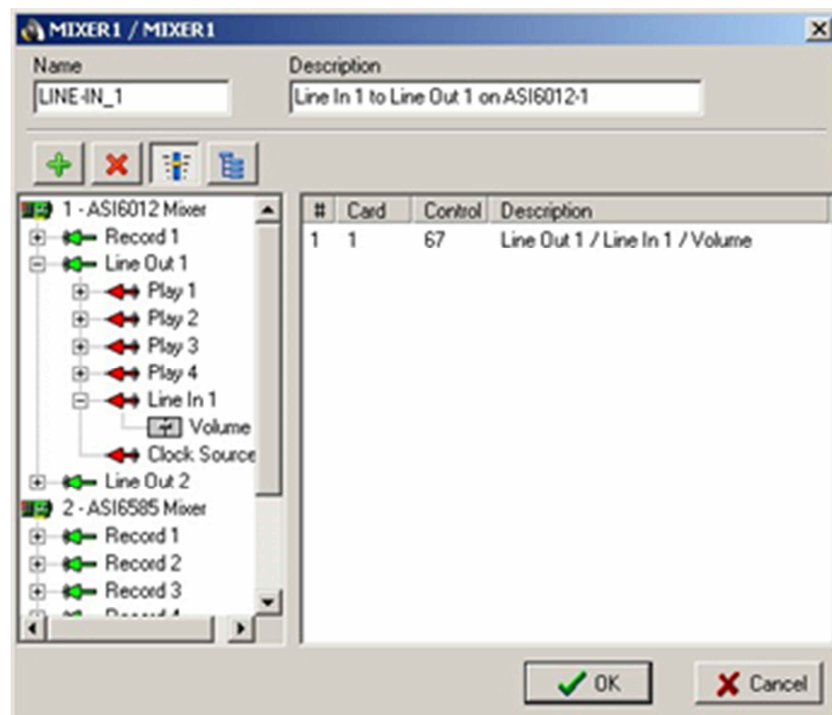

Figure 4-30. Mixer Editor with an AudioScience 6012 Model's Line In 1 Pass-through Volume Control Selected
5. To remove a control from the mixer's configuration, click the control in the list on the right (see Figure 4-30), and then click the **Delete** button .